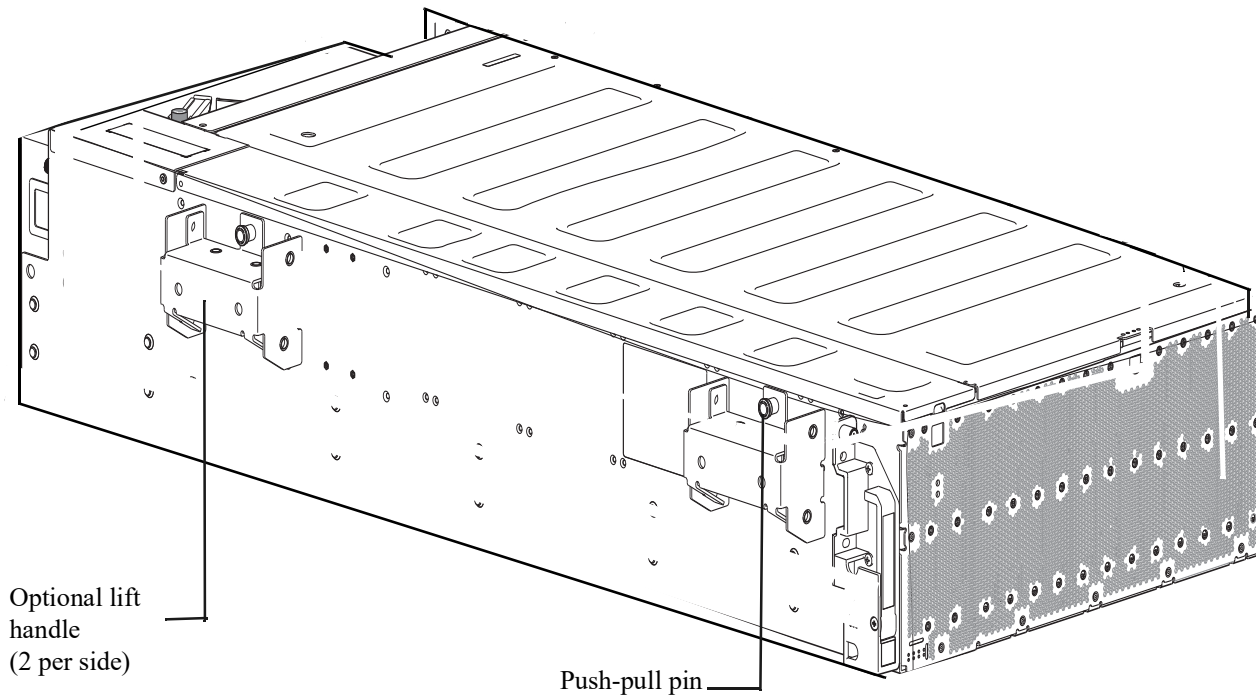

Figure 24 Unpacking the 4U106 using lift handles
Figure 24 shows left, and right lift handles along with the slots present on the enclosure sidewalls. Each 4U106 enclosure supports four lift handles (two identical lift handles on the left side, and two identical lift handles on the right side). Carefully mark the difference between the left and right lift handles, and their slots present on the enclosure.
See Figure 24 and the **CAUTION** above and below the illustration. Illustrations are isolated from the remainder of the packaging. As a visual aid for the unpacking task, see “Enclosure packaging” (page 117). The illustration shows lift handles slots present at the front of the enclosure. Similar slots are present at the rear of the enclosure. The bottom illustration shows two steel lift handles installed on the left side of the chassis just below the enclosure cover.
1. Identify the left lift handles (see Figure 24) and remove them from the packaging box.